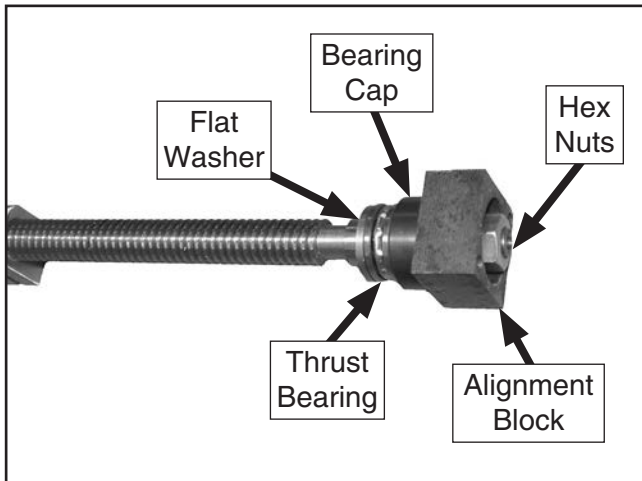
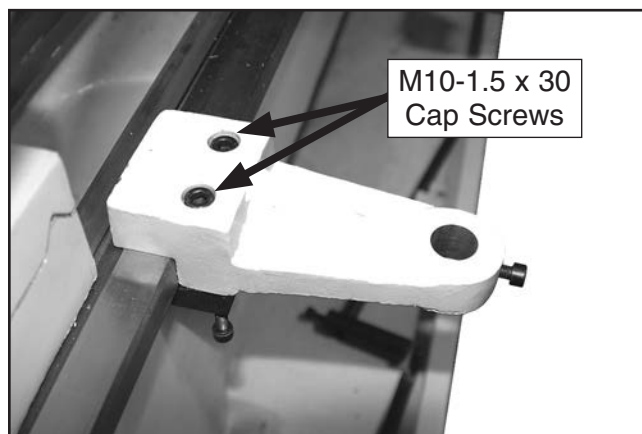

Figure 15. Alignment block installed on taper attachment leadscrew.
Figure 20. Bed clamp bracket and block attached to bedway (top view).
- Keeping the component order on the end of the taper attachment leadscrew the same as it was shipped (minus the alternate bracket), install the alignment block you removed in **Step 20** between the bearing cap and hex nuts, as shown in **Figure 15**.
- Rotate the alignment block at the end of the leadscrew (see **Figure 15**) so the orientation of the threaded holes will match the orientation of the cap screws in the pivot block when it is installed inside the taper attachment body (see to **Step 31** and **Figure 20** on **Page 7** for orientation reference).
35. Attach the bed clamp bracket and bed clamp block to the bedway between the tailstock and taper attachment, using (2) M10-1.5 x 30 cap screws and (2) M6-1 x 35 cap screws, as shown in **Figures 20–21**. Leave the bracket loose enough on the bedway so that you adjust its position.